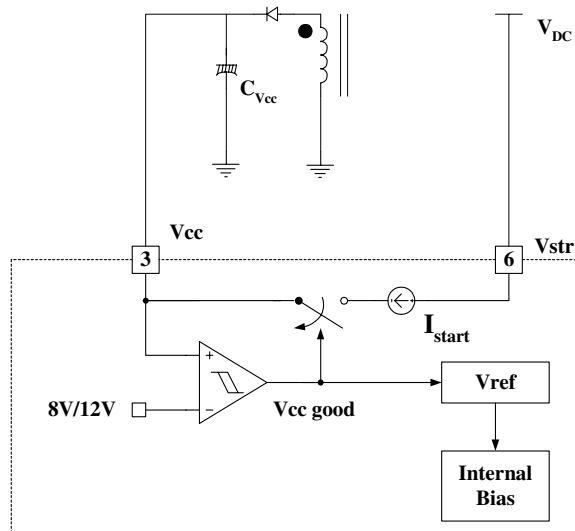

Figure 4. Internal startup circuit
**1. Star-up:** In previous generations of Fairchild Power Switches (FPS™), the Vcc pin had an external start-up to the DC input voltage line. In the newer switches, the startup resistor is replaced by an internal high voltage current source. At startup, an internal high voltage current source supplies the internal bias and charges the external capacitor ( $C_{Vcc}$ ) that is connected to the Vcc pin as illustrated in Figure 4. When the Vcc pin reaches 12V, the FSDM1265RB begins switching and the internal high voltage current source is disabled. Then, the FSDM1265RB continues its normal switching operation and the power is supplied from the auxiliary transformer winding unless Vcc goes below the stop voltage of 8V.